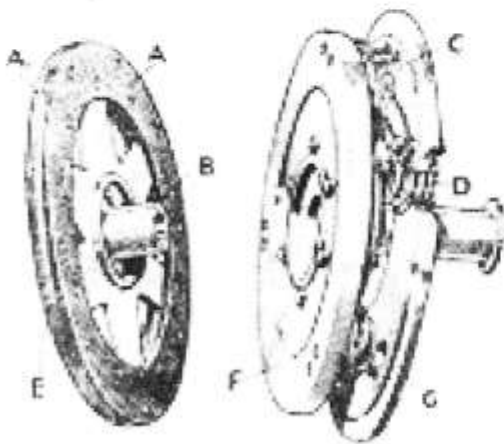

Figure 2: The clutch components.
They are of the single plate type, the friction linings (A) being riveted to the clutch plate (E) which is carried on the splined centre (B), see Figure 2. When engaged to take up the drive the linings are pressed against the flywheel by the pressure plate (F)
If these - see Figure 2, item (C) - become broken, they may, depending on the owner's determination and patience, be replaced with the gearbox in situ.